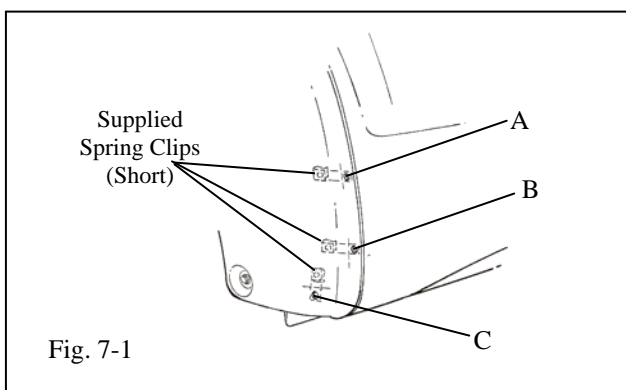

Fig. 7-1
- (a) Pull liner out and install supplied spring clips (short) over panel edge holes locations A, B and C with turned up edge on inside of panel. (Fig 7-1)